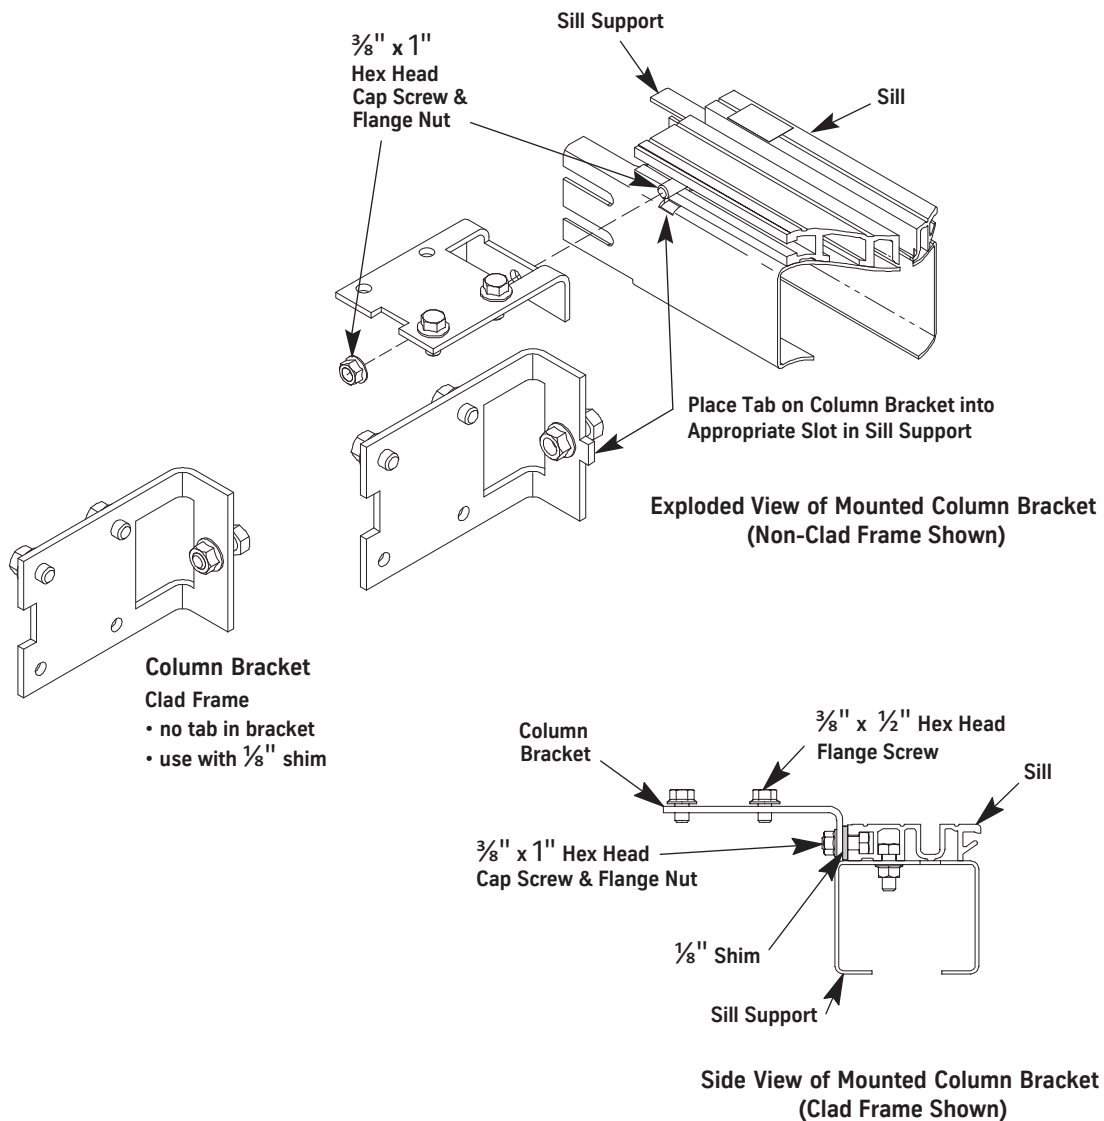

Figure 30 - Column Bracket Installation for Standard Sill
3. Remove the hex head cap screws from the column mounting brackets, and slip them into the slot on the back side of the sill. See Figure 30.